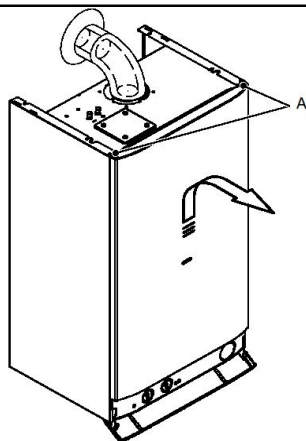

Fig. 8.59
1. Loosen the two screws A (Fig. 8.59).